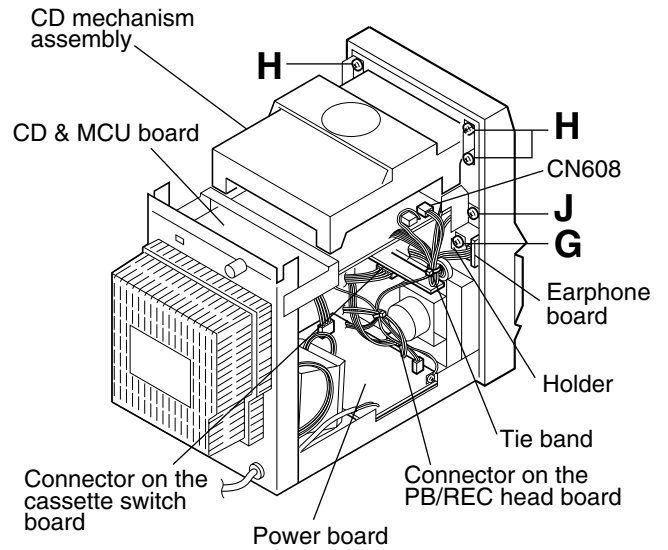

Fig.10
(See Figs. 10 to 12.)
- 1. From the left side of the main body, remove the tie band bundling the wires. (See Fig.10.)
- 2. Disconnect the wire from the connector on the cassette switch board. (See Fig.10.)
- 3. Remove the screw **G** retaining the holder on the earphone board. (See Fig.10.)
- 4. Disconnect the wires from the two connectors CN607 and CN608 on the CD & MCU board. (See Figs.10 and 11.)
- 5. Remove the four screws **H** and the two screws **J** retaining the CD mechanism assembly from the left and right. (See Figs.10 and 11.)
- 8. Disconnect the wire from the connector on the PB/REC head board, and then remove the front cabinet assembly. (See Fig.10.)